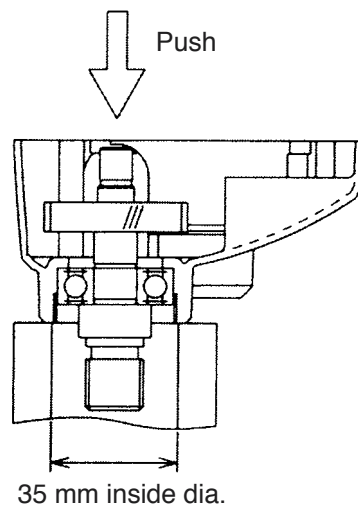

Fig. 9
3. As shown in Fig. 9, support the end surface of the Gear Cover Ass'y [8] <8> with an appropriate cylindrical jig (about 35 mm inside dia.). Push the end surface of Spindle (B) [4] <4> with a hand press to remove the First Gear [17] <17>.
4. Remove the Retaining Ring for D12 Shaft [6] <6> from Spindle (B) [4] <4>.
5. Remove the Ball Bearing 6201DDCMPS2L [5] <5> from Spindle (B) [4] <4> using the J-30 Bearing Puller (Code No. 970804).